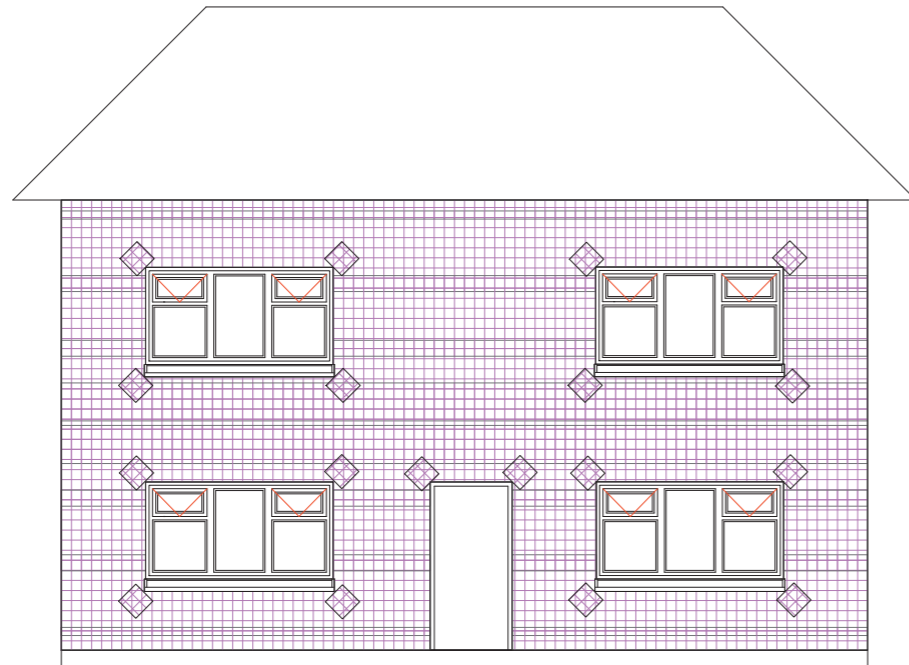

Figure 25 - Mesh Overlap Layout
3. 4-7mm ProRender Lite mesh-coat with embedded ProMesh Grade 3 – see figure 25 above